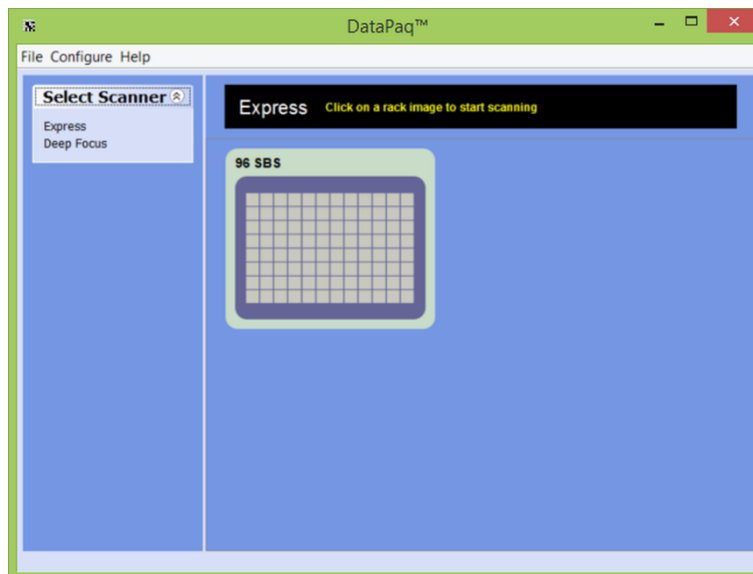

Figure 18: Rack Group Image for the Express Scanner
4. The layout for this rack group will be displayed: (NB, the following image is for the Deep Focus and High Speed Scanners. The Express Rack Group Image is shown in Figure 18)